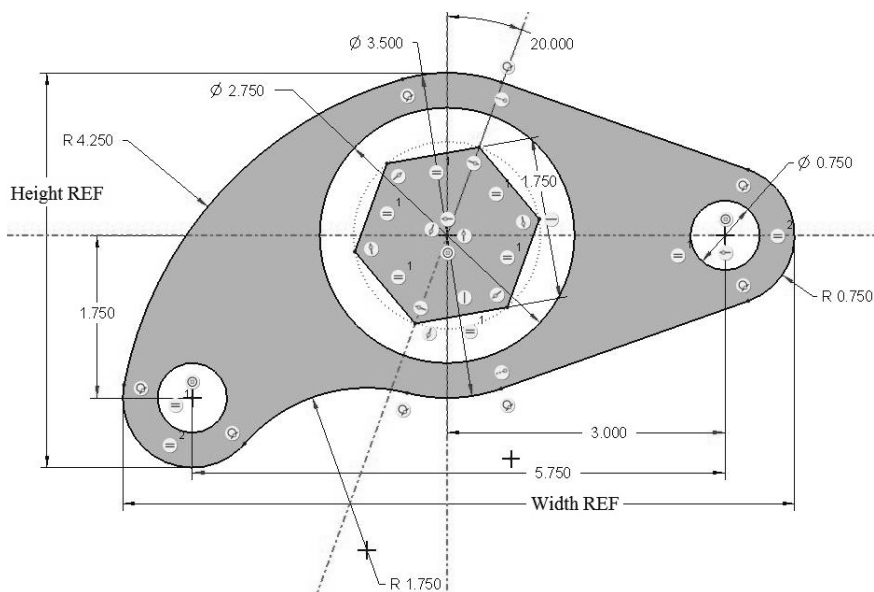

Figure 3-73 Problem 4—Rocker Arm
3.4 Draw the front view of “**rocker_arm**” (Figure 3-73). Draw the centerlines first. **Design Intent**—The hexagonal shaped hole of the rocker must be offset by 20 degrees as shown. The right 0.75-inch diameter hole must be 3.000 inches from the center hex shape. **Design change:** The left 0.75-inch diameter hole must be 5.875 inches from the right hole instead of 5.750 inches as shown. What is the overall height and width of the rocker arm? (>File>Options>Sketcher, change to 3-decimal places before sketching.)